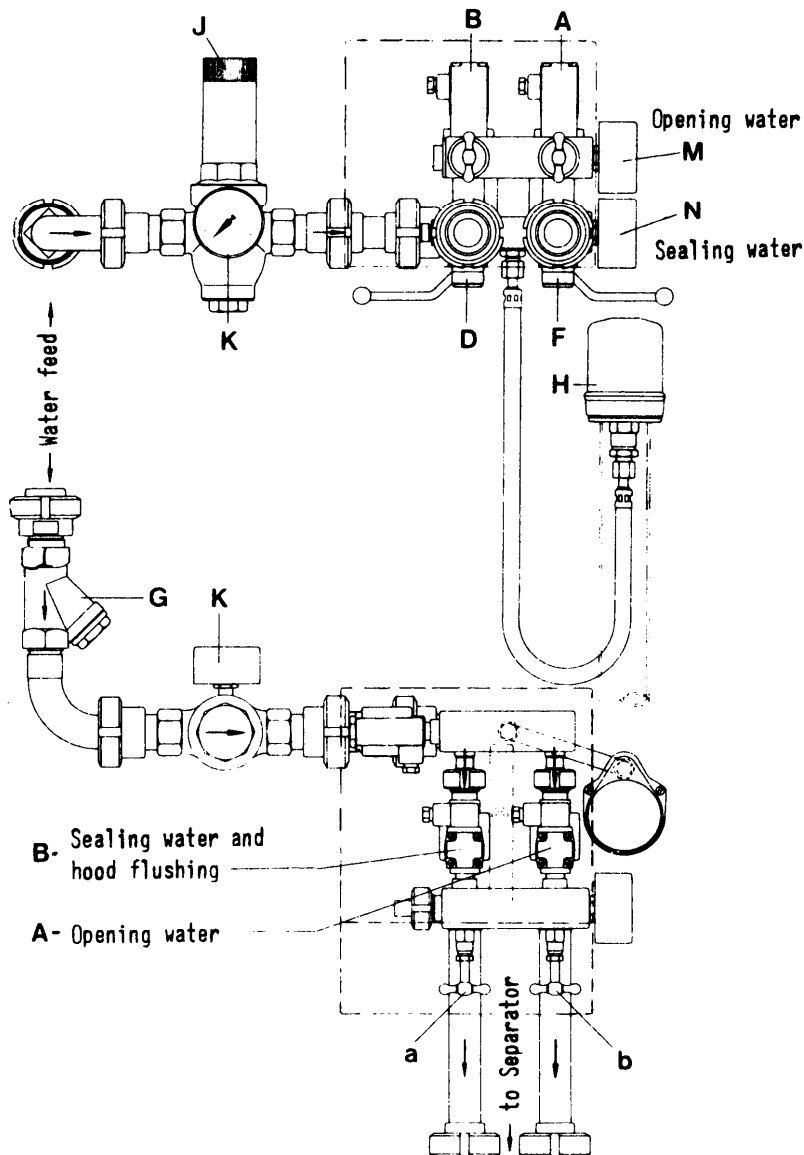

Fig. 5/4
Pressure gauges M and N (Fig. 5/4) merely serve for checking the closing and opening operations.
5.3.1 Arrangement of the solenoid valves (Fig. 5/4), manual control of the separator